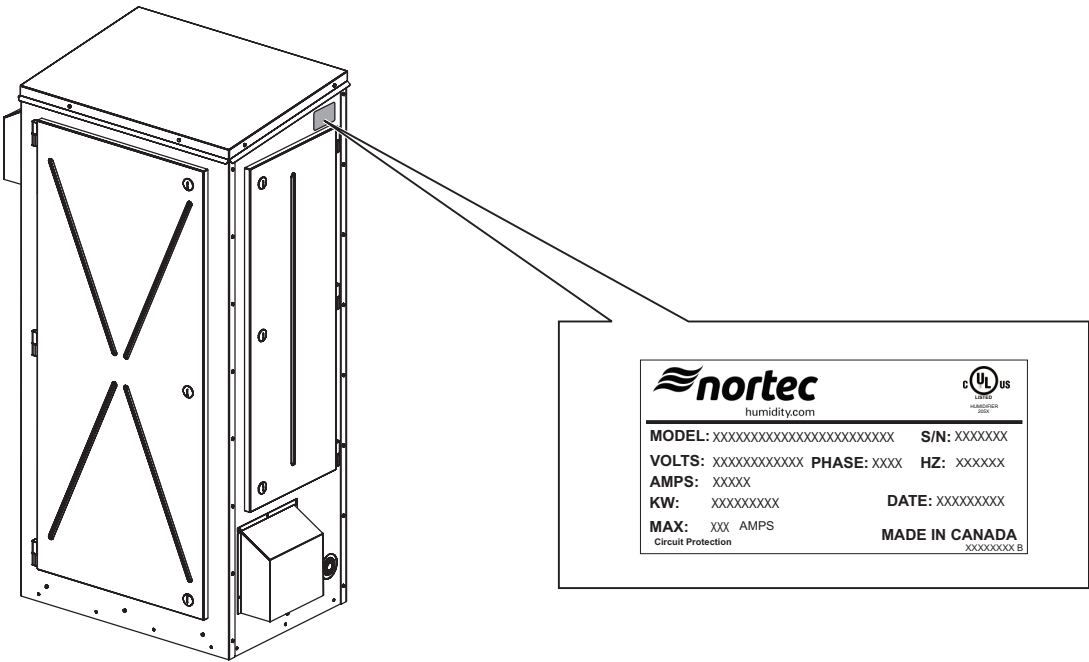
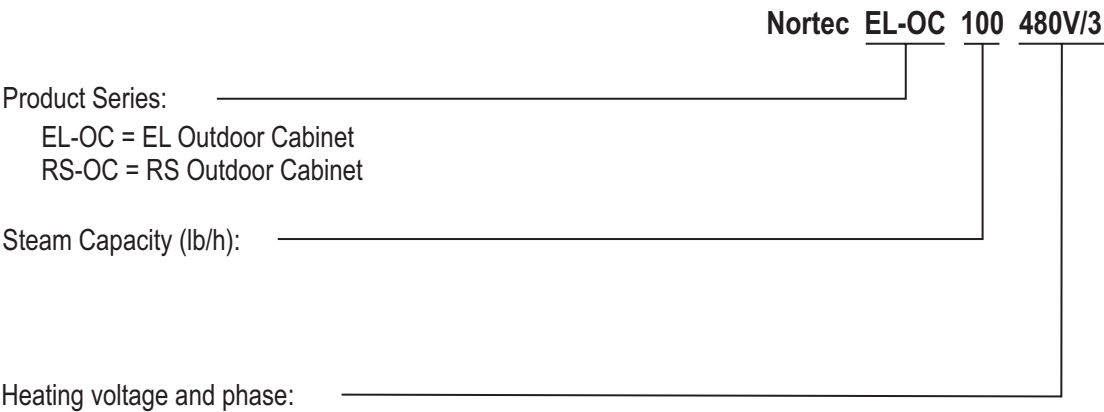

Figure 3: Nortec EL/RS Outdoor Steam Humidifier Specification Label
Figure 4: Model Breakdown
- Verify the model type, capacity and voltage on the specification label to ensure that it is suitable for your installation site. Refer to Figure 3 on page 9.
The specification label on the side of the Nortec EL/RS Outdoor humidifier shows its model number, serial number and ratings – refer to Figure 3. The breakdown of the model number is shown in Figure 4.